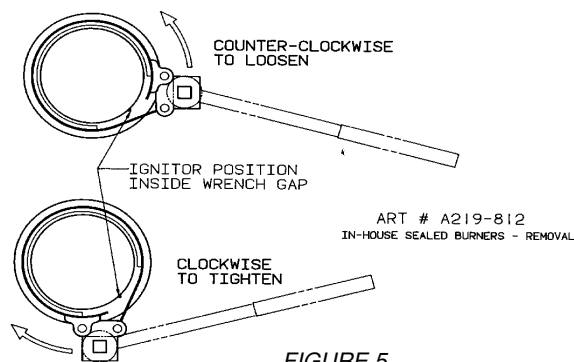

FIGURE 5
3. Place burner wrench (part no. 8312D075-60, available from the dealer or authorized service agency) over the surface burner assembly with the ignitor positioned inside the gap in the wrench ring (figure 5). This prevents the ignitor from being damaged when the wrench grips the burner assembly. Rotate the burner assembly approximately one-eighth turn counter-clockwise and lift from the main top.